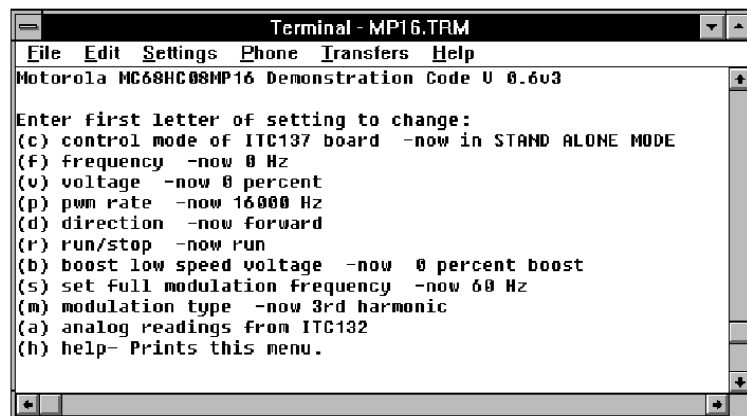

Figure 10. Terminal Display
5. Reset the ITC137 board. If connected and configured properly, the terminal will display software version information and the top level command menu shown in **Figure 10**.
The main menu, shown in **Figure 10**, allows the following command options. Note that commands are executed when followed by an ENTER keystroke.